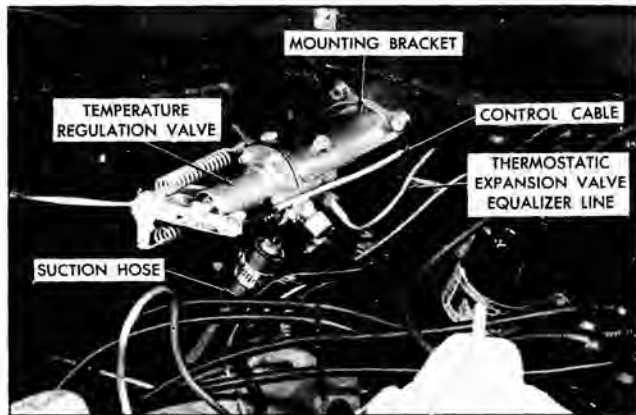

Fig. 6-40 Location of Temperature Regulation Valve—Pontiac
2. Disconnect temperature control cable at temperature regulation valve (Figs. 6-40 and 6-41).